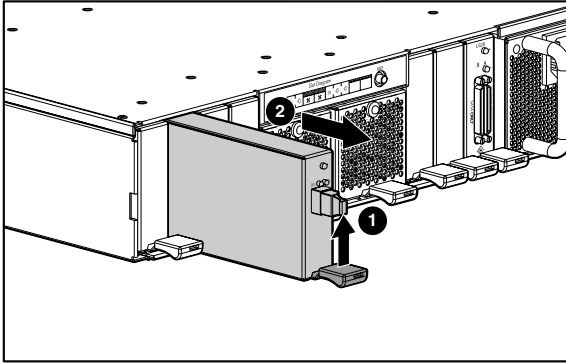

Figure 1: Removing the Fibre Channel I/O module
1. Lift the port-colored Fibre Channel I/O module latch ❶ and pull the I/O module out of the enclosure ❷ as shown in Figure 1.